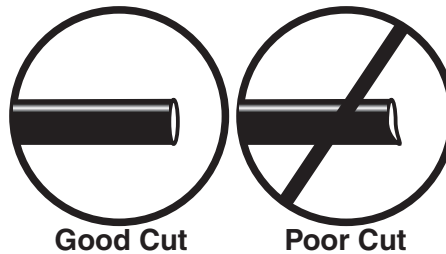

fig. 16
WHEN CUTTING OR TRIMMING THE AIR LINE, USE A HOSE CUTTER, A RAZOR BLADE, OR A SHARP KNIFE. A CLEAN, SQUARE CUT WILL ENSURE AGAINST LEAKS. DO NOT USE WIRE CUTTERS OR SCISSORS TO CUT THE AIR LINE. THESE TOOLS MAY FLATTEN OR CRIMP THE AIR LINE CAUSING IT TO LEAK AROUND THE O-RING SEAL INSIDE THE ELBOW FITTING (FIG. 16).
- a. Check the air line connection by deflating the spring and removing the line by pulling the collar against the fitting and pulling firmly on the air line. Trim 1" off the end of the air line. Be sure the cut is clean and square (see fig. 16). Reinsert the air line into the push-to-connect fitting.